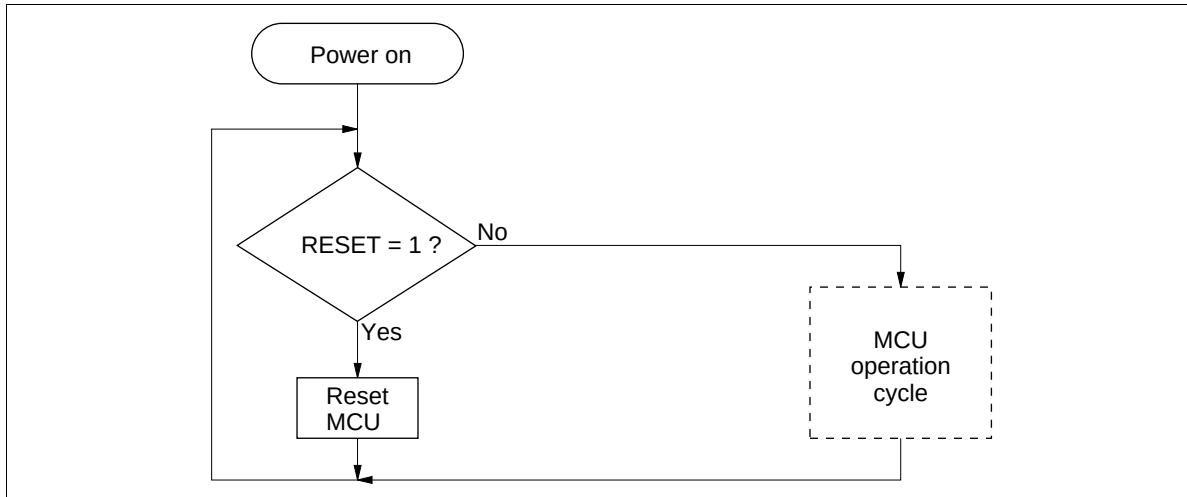

**Figure 15 MCU Operating Sequence (power on)**
**MCU Operating Sequence:** The MCU operates in the sequence shown in figures 15 to 17. It is reset by an asynchronous RESET input, regardless of its state.